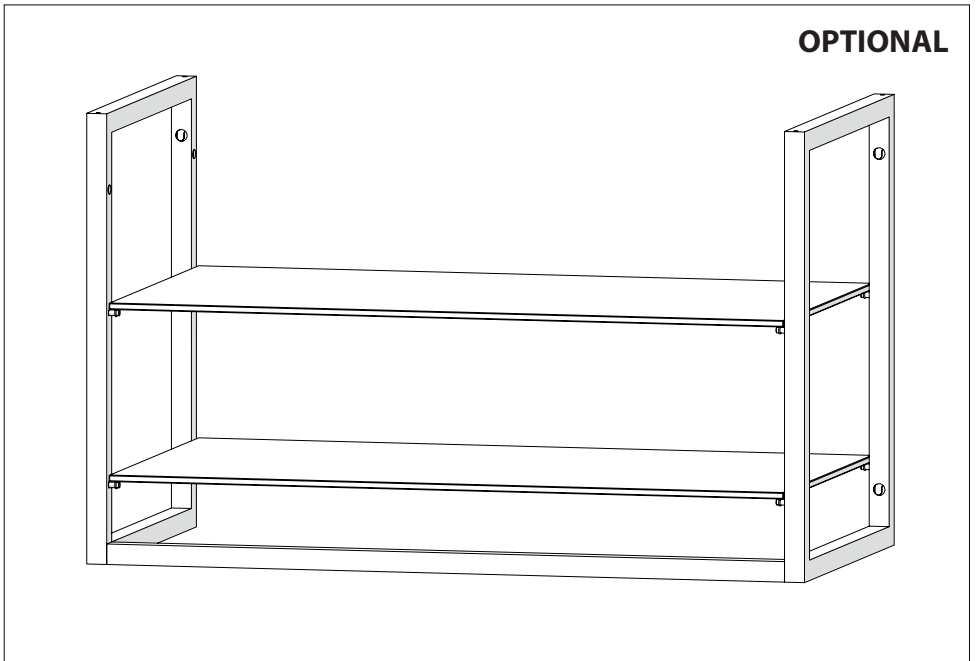

Fig.6
• An accessory shelf kit Fig.6 can be purchased from your dealer; assembly instructions can be found inside the kit.